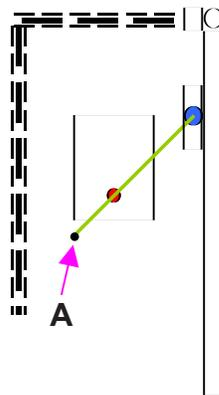

Figure 9
4. Slowly open the gate. While opening the gate, place a finger against the string (see point A, **Figure 9**) and hold the string taut and level until the gate is fully open.